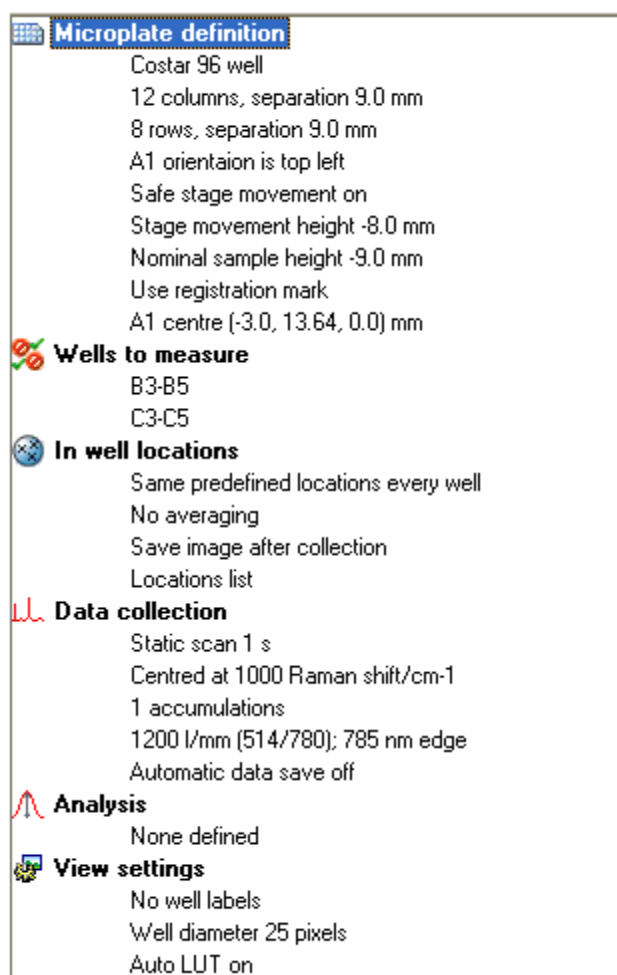

Figure 1 Micro-plate mapping menu
- 3a. Right click on Micro-plate *definition*, in the measurement tree on the left-hand side of the screen (Figure 1), and select *Configure*. Click on *Add*, and enter a name for the Micro-plate. Enter the number of rows and columns on the Micro-plate and the distances between wells. Select the correct orientation of the Micro-plate at the bottom of the Micro-plate *definition* window, as determined in 1.
1. Right click on *Wells to measure* (Figure 1), and select *Configure*. Check the boxes of the wells to measure. The column and row headings can be clicked on to select or deselect all the boxes in that row or column. **This mask overrides the *In well locations* menu, so that only wells selected here will be measured.**
2. Right click on *In well locations* (Figure 1), and select *Configure*. One of three methods of defining locations can be selected (Figure 6).
1. Click *OK* in the *In well locations* window. Select the scan conditions required by right clicking *Data collection* (Figure 1), then selecting *Configure*.